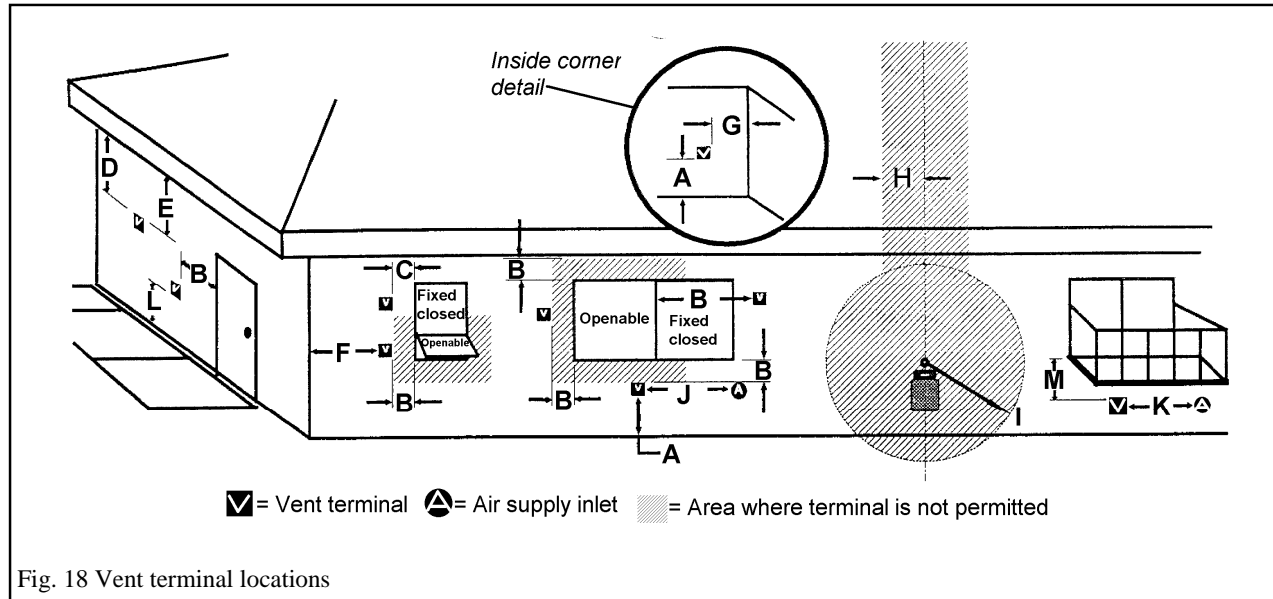

Fig. 18 Vent terminal locations
- The minimum clearances from this terminal that must be maintained when located on an outside wall are shown in figure 18. Any reduction in these clearances could result in a disruption of the airflow or a safety hazard. Local codes or regulations may require greater clearances.